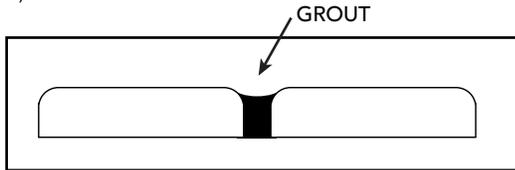

Fig. 11 - The finished grout line width is wider than the space between the tiles.
- The desired grout line width should be determined prior to starting the flooring installation. It is important to understand that the finished grout line will be $1/16"$ to $3/32"$ wider than the space between the tiles, since the grout will extend onto part of the radius along the top edge of the tile (Fig. 11).